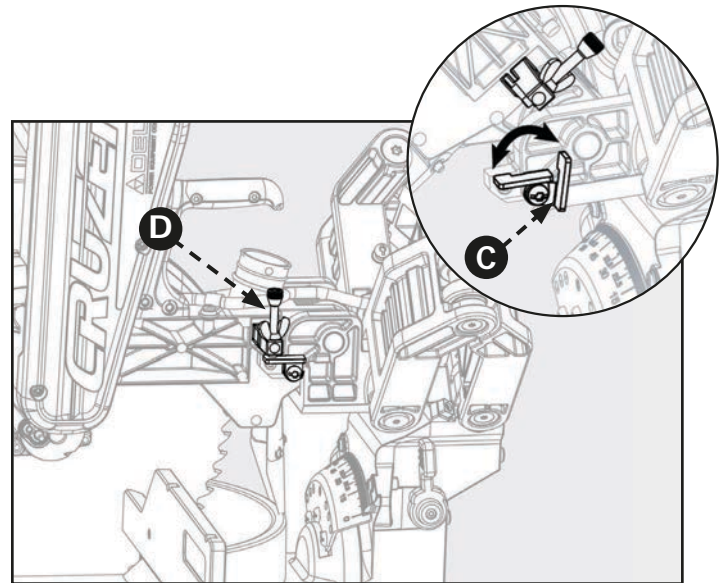

Figure 32
Refer to Figure 32 and follow these instructions in order to set the depth stop at a specific cut depth: rotate the stop bracket (C) counterclockwise into the down position. The cut depth can now be adjusted by turning the depth adjustment screw (D).
Refer to figure 32 and follow these instructions in order to make a through cut: rotate the stop bracket (C) clockwise into the up position.